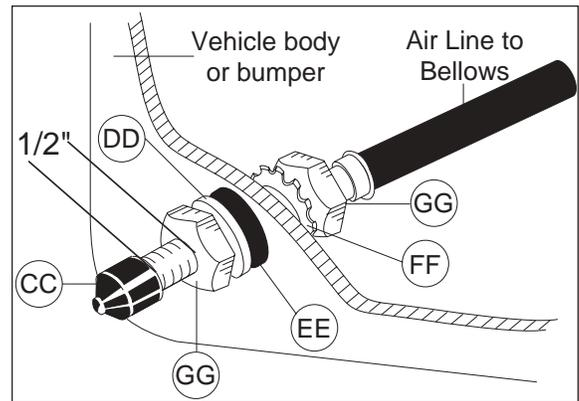

Figure 4
4. Place a $\frac{5}{16}$ " nut (GG) and a star washer (FF) on the air valve. Leave enough of the valve in front of the nut to extend through the hole and have room for the rubber washer (EE), flat washer (DD), and $\frac{5}{16}$ " nut (GG) and cap (CC). There should be approximately $\frac{1}{2}$ " of the valve exposed after installation to easily apply a pressure gauge or an air chuck (Figure 4).
5. Push the inflation valve through the hole and use the rubber washer (EE), flat washer (DD), and another $\frac{5}{16}$ " nut (GG) to secure it in place. Tighten the nuts to secure the assembly in place (Figure 4).